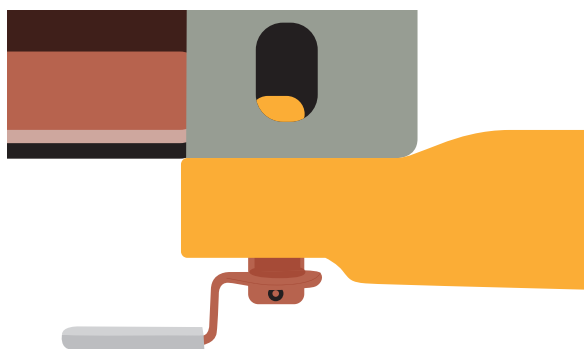

Figure 6: Chains unhooked and twistlock engaged.
- that all twist locks are closed and locked into place at each corner of the container (see Figure 6).